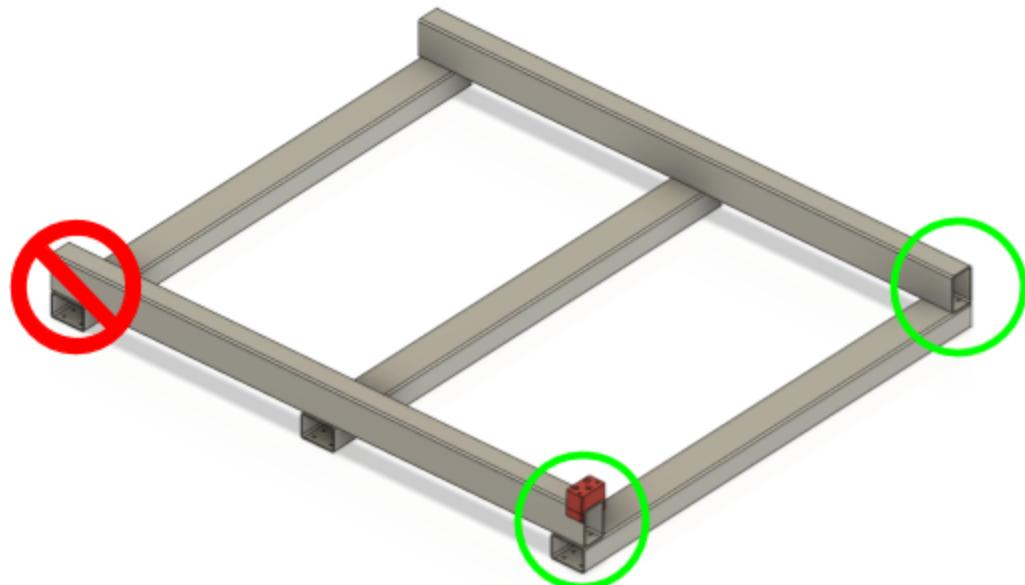

Figure 4.1
1. Place the BF12 Mount on the Y-Axis frame far from the side which has the cable pass through hole as shown in Figure 4.1. The end of the frame with the cable pass through hole is marked prohibited in red in the figure. The locations where BF12 Mounts should be marked and placed are circled in green.
4. Repeat steps 4.2 and 4.3 on the other Y-Axis frame beam where circled in green in Figure 4.1.